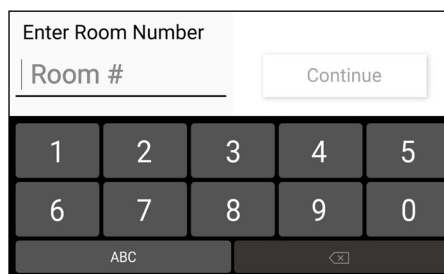

Figure 4. Patient room number entry screen
4. Enter the patient's room number and press continue (Fig. 4)